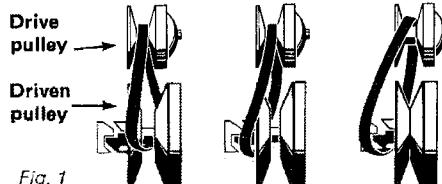

Fig. 1
To install drive belt, follow REVERSE procedure (See Fig. 1).
1. Remove console, pulley guard and drive belt (See Fig. 1). Open the driven pulley. (Twist and push sliding half).
1. With cab tilted, remove console, pulley guard and drive belt (See Fig. 1).